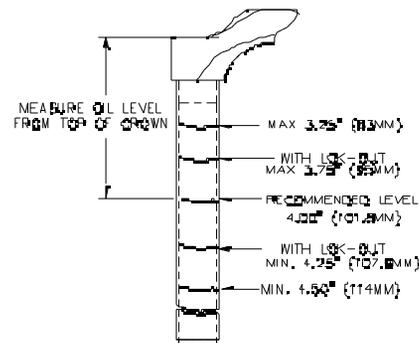

FIGURE 8: TPC OIL LEVEL
8. Add approximately 90 CC of 5 WT Maxima or equivalent oil. Do not over fill. Check oil level, see Figure 8.